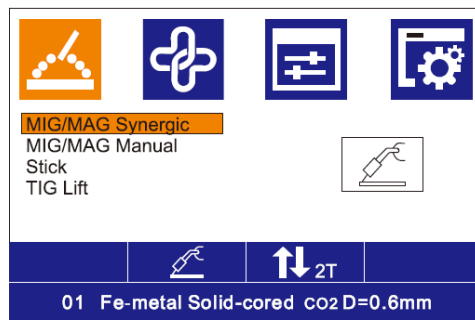

Fig. 1
- 2) In the function selection interface, rotate L Knob to select the MIG/MAG Manual welding method and press down it for confirmation as shown in Fig. 1;
- 2) In the function selection interface, rotate L Knob to select the Stick welding method and press it for confirmation. Refer to Fig. 1;
- 2) In the function selection interface, rotate L Knob to select the TIG Lift welding method and press it for confirmation. Refer to Fig. 1;